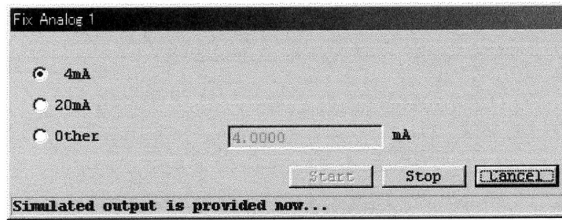

Fig.82
- ④ In response to clicking on "OK" button, a preselected analog output appears. While this output stays on, a message "Simulated output is provided now..." appears as shown in Fig. 82. To stop the simulated output, click on "Stop" button.